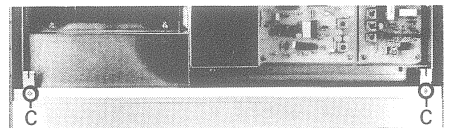

Fig. 2.3
2.4 Removing the front panel (Fig. 2.3 and 2.4)